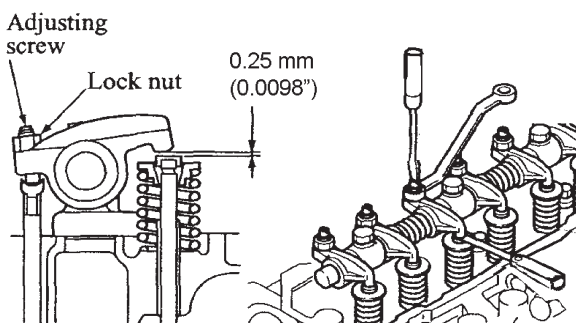

Figure 7: *Valve Adjustment*
5. To adjust valve clearance, loosen the lock nut on the adjustment screw. Insert a feeler gauge between the rocker arm and the valve stem cap. Adjust, while measuring the clearance, until the feeler gauge slides with a slight drag. Tighten the lock nut and recheck the clearance (Figure 7).